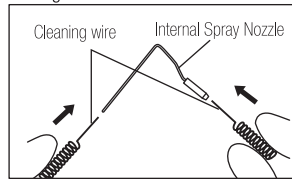

Fig. 12
- 1) Clean Internal Spray Nozzle and External Spray Nozzle (internal and external) by using Cleaning Wire. (Fig. 12, 13)
- 2) Insert a Irrigation tube in each Spray Nozzle, and wash it away with clean water.(Refer to 5. (1)(2)).